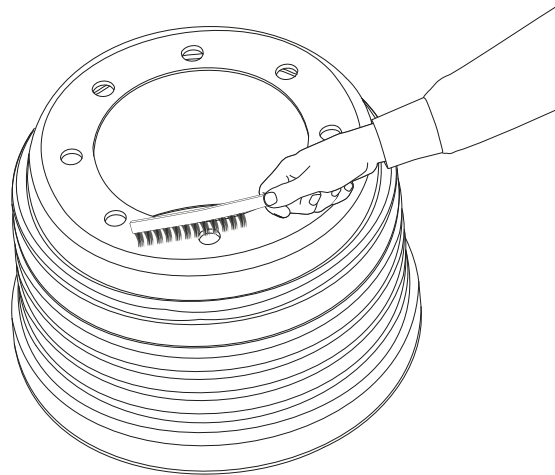

Figure 119: Clean Drum & Wheel Mating Surfaces
1. Clean all mating surfaces on hub, drum, wheels, and nuts. Refer to Figure 119.